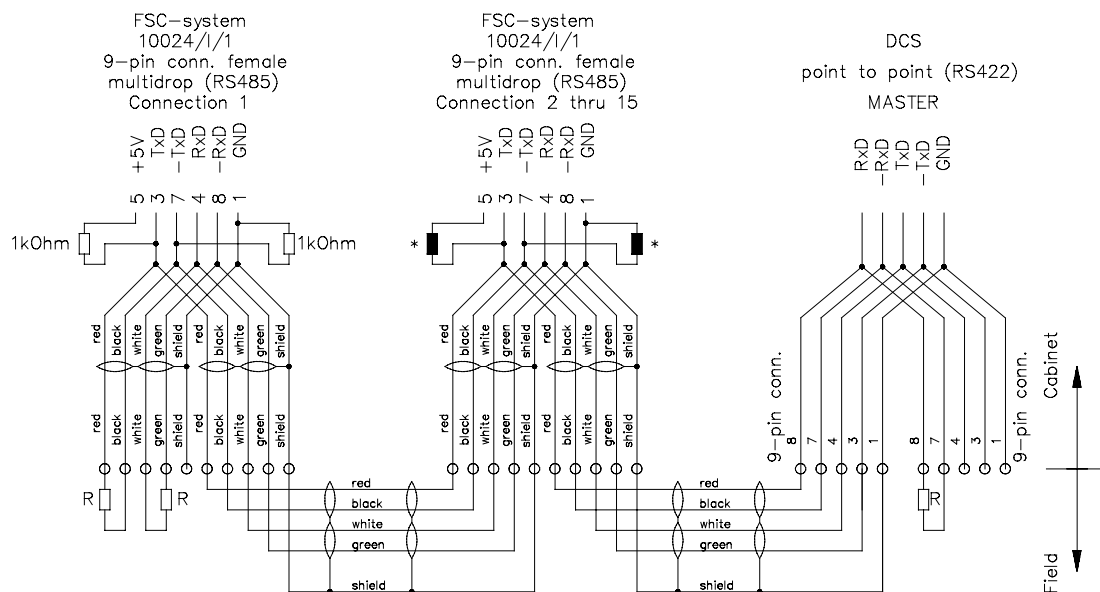

Figure 22 Connection between redundant FSC system and DCS using Belden 8723 cable and an I-interface (RS-485/RS-422)
- **RS-485** communication (using an **I-interface**) (see Figure 22).
- \*\* Figure 22 is only an example. The exact RS-485 connections between an FSC system and a DCS may vary, depending on the DCS connection requirements.